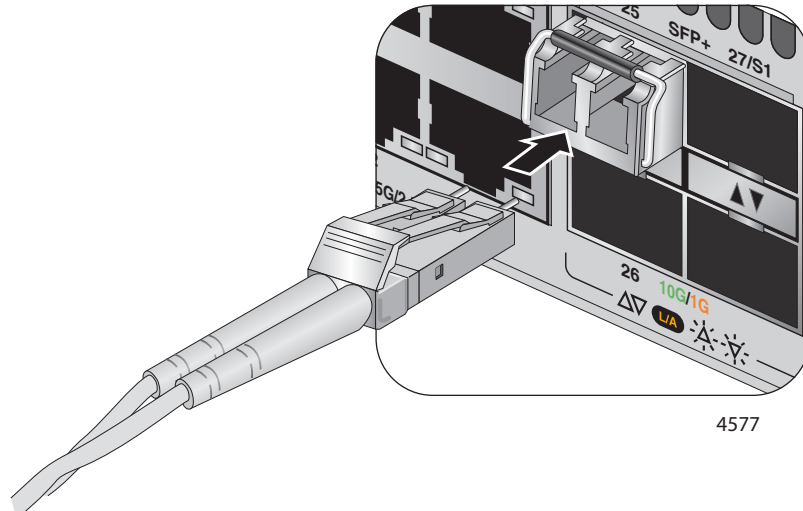

Figure 58. Connecting a Fiber Optic Cable to an SFP or SFP+ Transceiver
6. Connect the fiber optic cable to the transceiver, as shown in Figure 58. The connector on the cable must fit snugly into the port, and the tab must lock the connector into place.